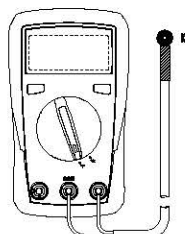

Figure 5
8. Temperature measurement (only for UT131C, see Figure 5)